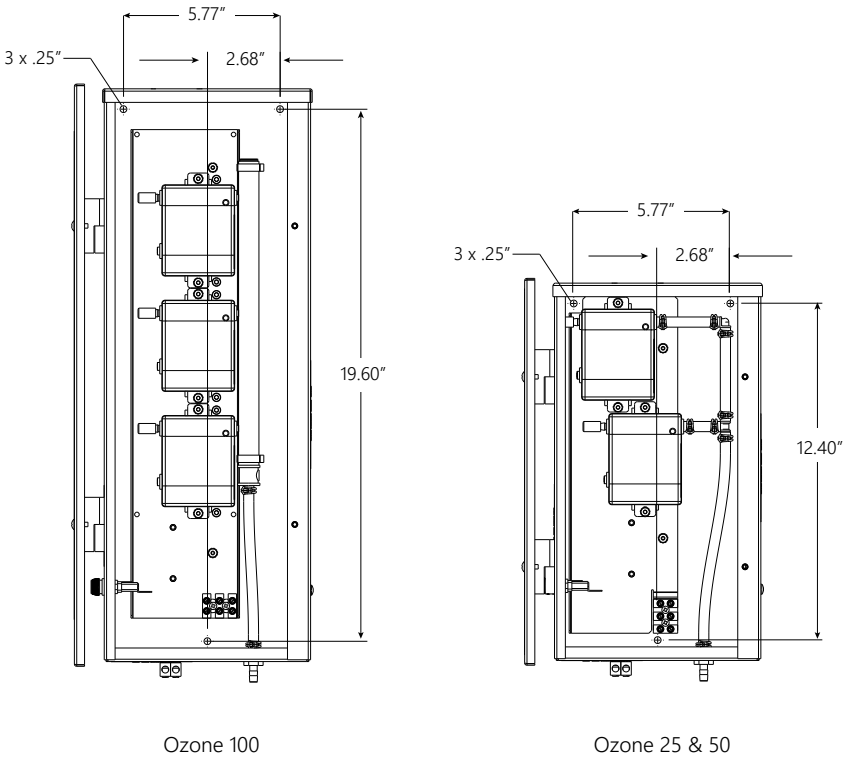

Figure 1: Mounting Hole Dimensions
- Install at least 5 feet (1.5 meters) from wall of pool using nonmetallic tubing. Tubing is supplied with the DEL Ozone generator. Never replace this tubing with metal tubing. Install ozone generator no less than one (1) foot above maximum water level to prevent water from contacting electrical equipment. Install in accordance with the installation instructions.
- The DEL Ozone® must be installed in an outdoor location, or indoors in a forced air ventilated room, and installed so that the orientation is exactly as shown in Figure 1. Install to provide water drainage of generator to protect electrical components.
1. Open the enclosure door and locate the three mounting holes on the back wall of the enclosure. There will be two holes located near the top on the left and right and one located in the center near the bottom. Refer to Figure 1 for clarification.